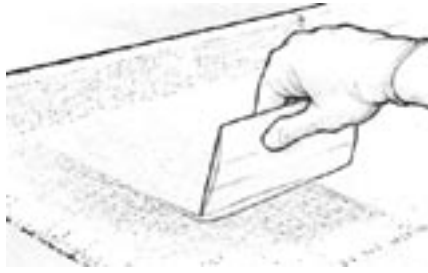

Figure 9-22 Squeegee away excess epoxy before the first batch begins to gel.
6. Squeegee away excess epoxy before the first batch begins to gel (*Figure 9-22*). Drag the spreader over the fabric, use overlapping strokes of uniform pressure. Now refer to Steps 6, 7, 8 and 9 detailed above in the “wet method” technique to finish the procedure.